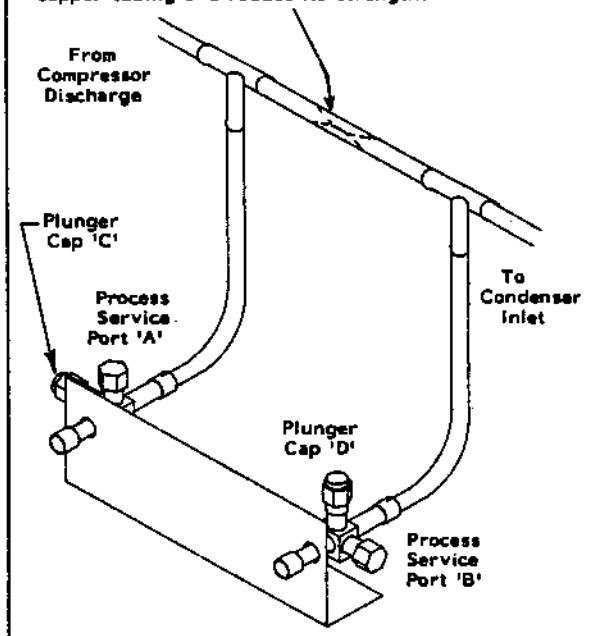

FIGURE 3
4. Evacuate the heat recovery device inter-connecting tubing and heat exchanger through the process service ports A or B shown in figure 3 and pressurize with Refrigerant 22 and perform a leak check. Release the charge used for pressurization, leak check and re-evacuate. Add 1 oz. of refrigerant for each 10 feet of additional inter-connecting tubing to the total system charge. Replace the caps and tighten.
- Tighten the plunger cap "C" and "D" shown in figure 3. This forces down a plunger which shears a frangible plug and moves it out of the refrigerant flow path. This now permits the discharge refrigerant from the compressor to flow through valve at plunger "C" (figure 3) to the heat recovery coil heat exchanger and back through the valve at plunger "D" and then to the condenser inlet.